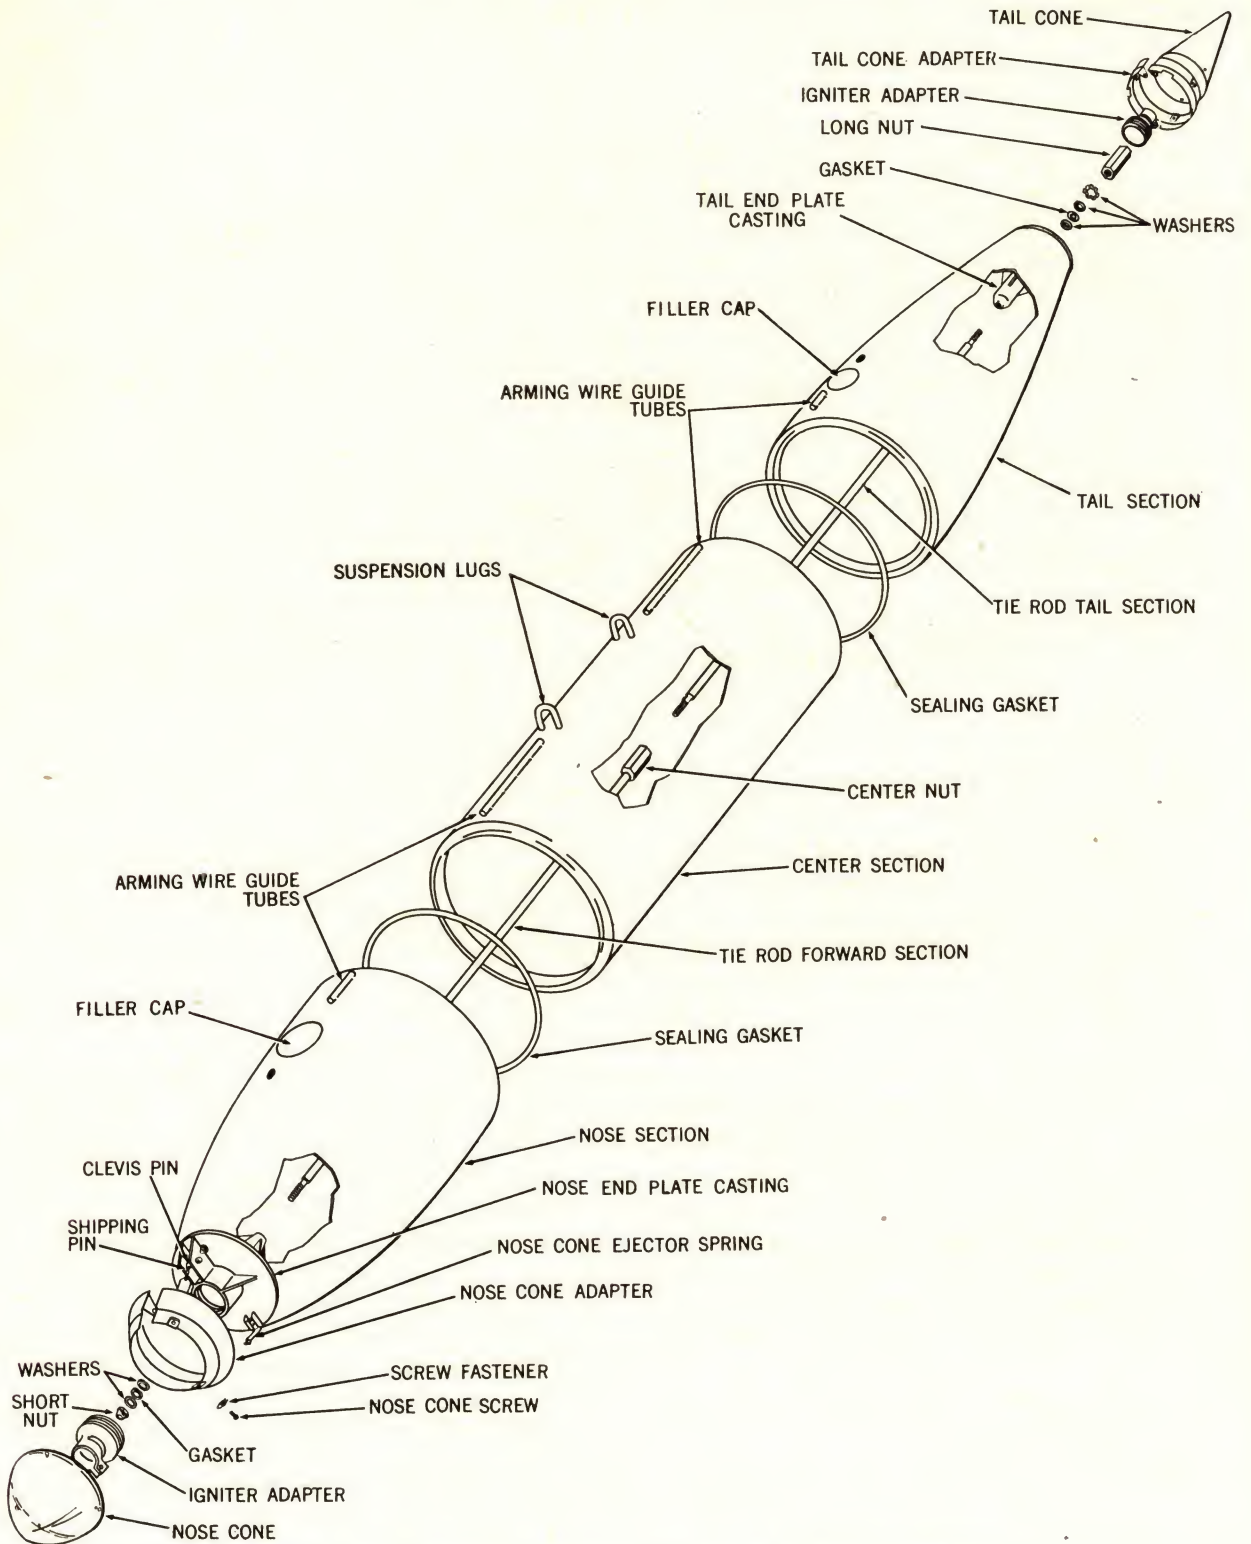

Figure 8.—Bomb Sections, Gaskets and Tie Rods, Exploded View.
8. Refer to figure 8. Assemble tie rod sections. Screw the ends of both the forward and rear tie rods, which have a one-inch length of thread, into the center nut until they bottom.